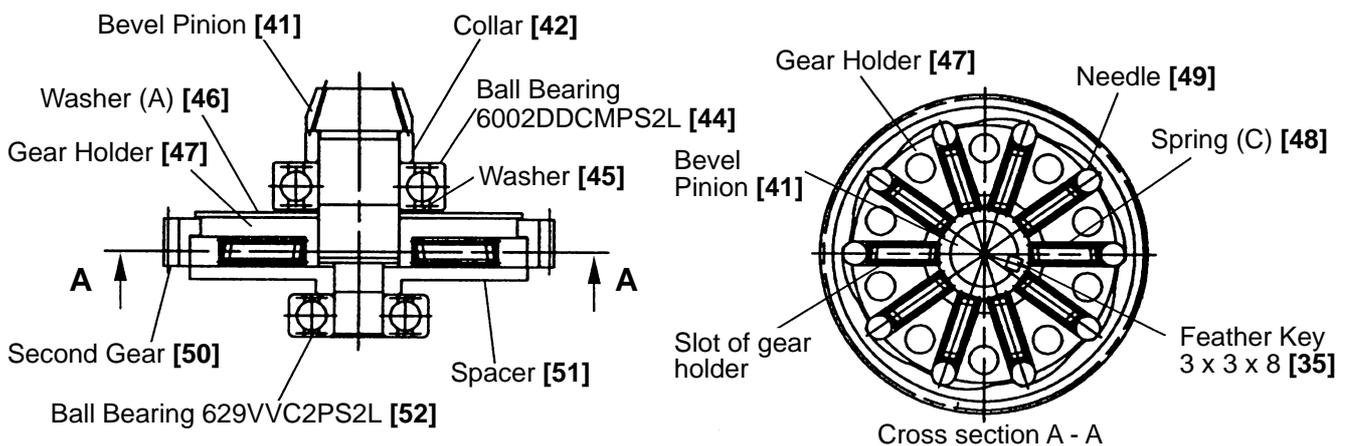

Fig. 17
(4) Reassembly of the slip clutch
Press-fit the Bevel Pinion [41] into the Collar [42] and the Ball Bearing 6002DDCMPS2L [44] then insert it into the Washer [45] and Washer (A) [46]. Mount the Feather Key 3 x 3 x 8 [35] to the Bevel Pinion [41] then press-fit into the Gear Holder [47]. Mount the Second Gear [50] around the outer circumference of the Gear Holder [47]. Before mounting, apply Hitachi Motor Grease No. 29 to the inner circumference of the Second Gear [50]. Insert the ten Needles [49] being careful not to incline them, then push in ten Springs (C) [48] as shown in Fig. 17. Fill the slots and the through holes of the Gear Holder [47] with Hitachi Motor Grease No. 29. Press-fit the Bevel Pinion [41] into the Spacer [51] and the Ball Bearing 629VVC2PS2L [52].